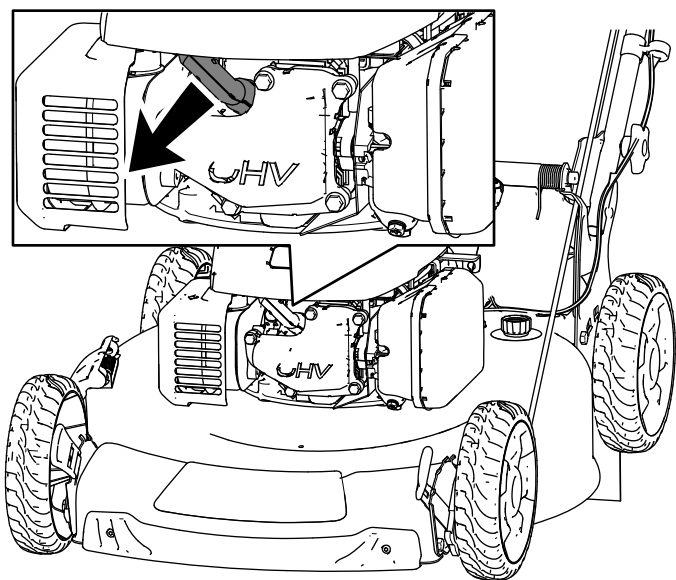

Figure 32
2. Disconnect the spark-plug wire from the spark plug (Figure 32).